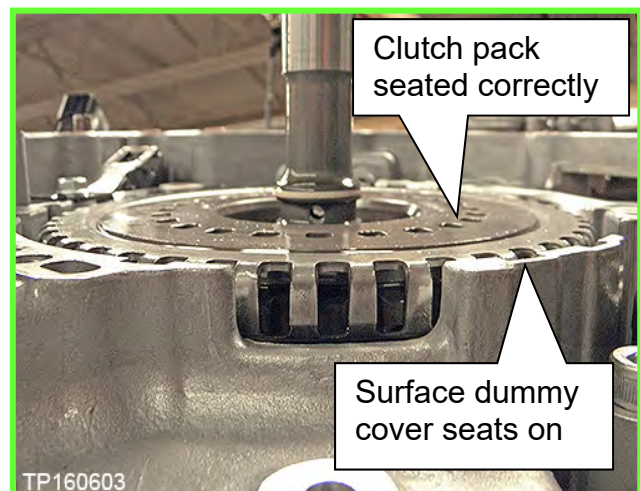

Figure 66
- Figure 66 shows the clutch pack fully seated.